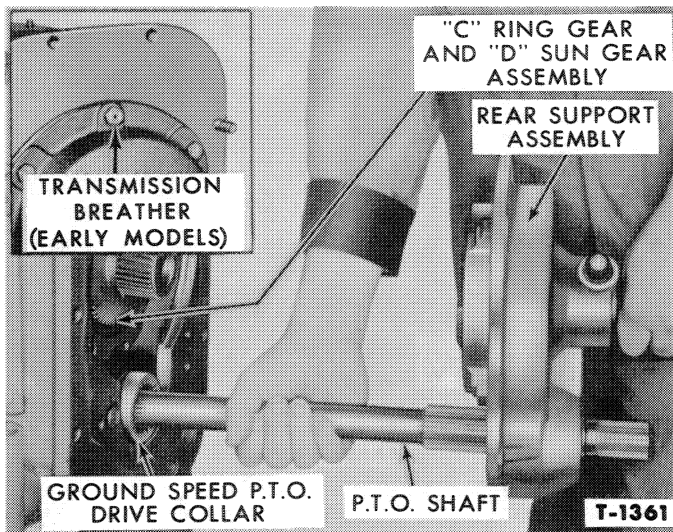

Figure 85—Removing the Rear Support
1. Remove the five rear support attaching bolts, shown in the insert, Figure 85. On early units the top center bolt extends through the transmission case and is drilled to act as a breather. A nut and washer must be removed from the inside of the case before the bolt can be removed.
3. Remove the ground speed P.T.O. drive collar, shown in Figure 85, from the shifter fork.